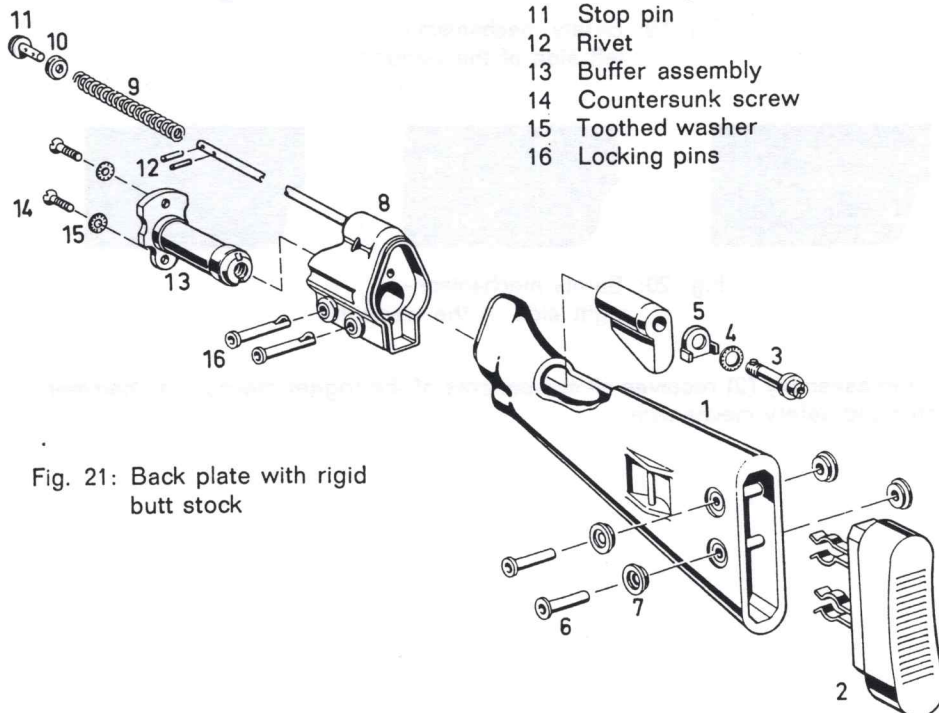

Fig. 21: Back plate with rigid butt stock
##### (1) Back plate with rigid butt stock (Fig. 21)